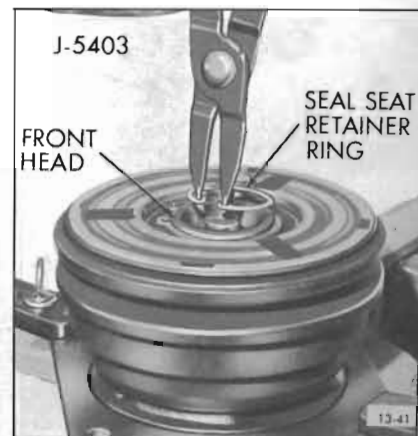

Figure 13-41—Removing or Installing Shaft Seal Seat Retaining Ring
5. Using No. 21 Truarc Pliers (J-5403) take out seal seat retainer ring (see Figure 13-41) from inside front head.
4. Using No. 21 Truarc Pliers (J-5403) reassemble seal seat retainer ring (flat side of retainer ring downward) into hub of front head and engage retainer ring in ring groove (see Figure 13-41). If necessary, retainer ring may